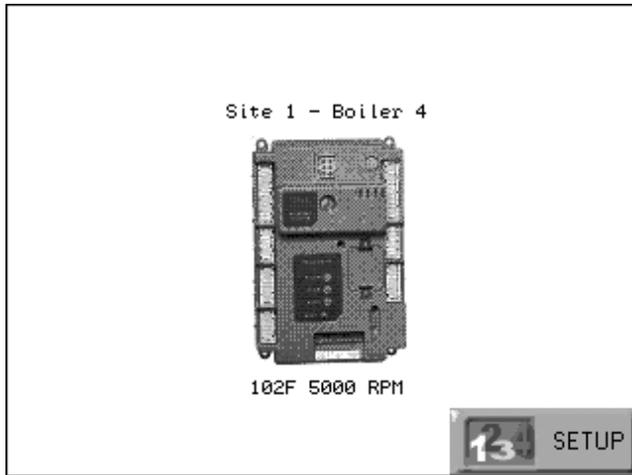

Fig. 1. Home page.
4. Once the PM is installed, and the LED is blinking, the Backup or Restore functions are available. Go to the Falcon operator interface Home screen (see Fig. 1).